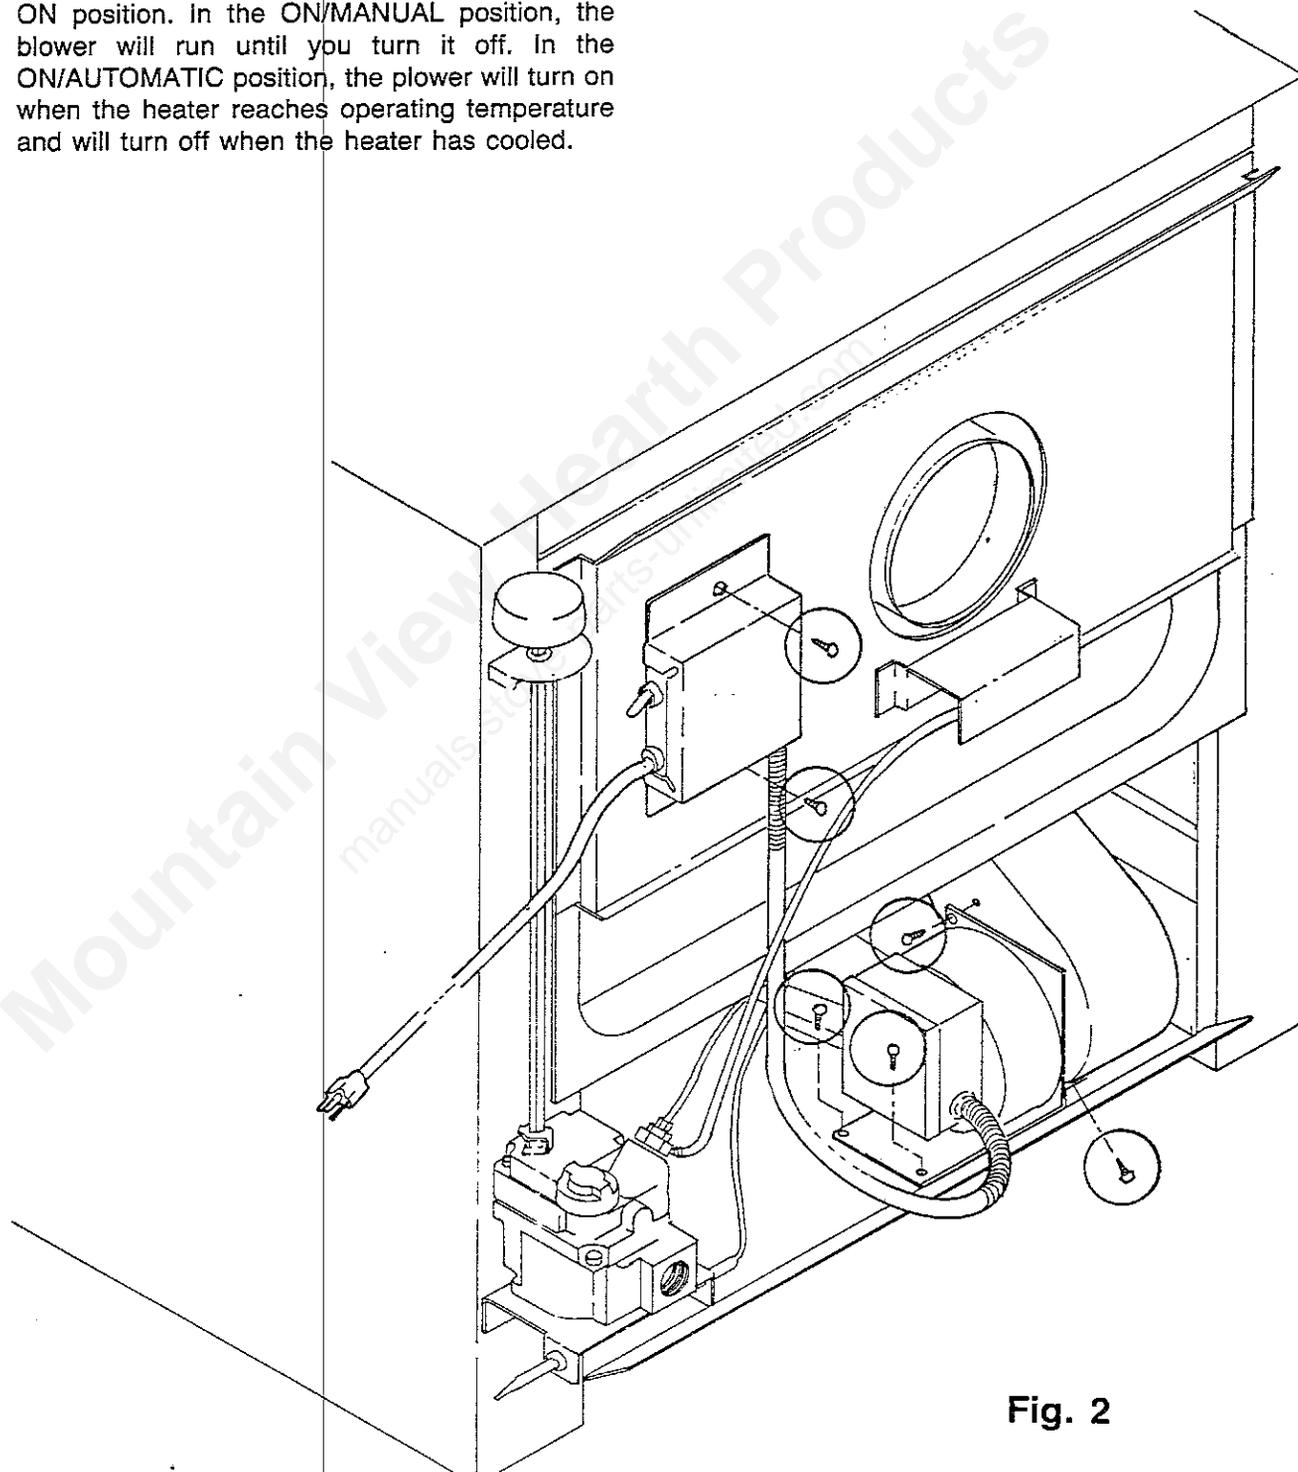

Fig. 2
1. Attach blower housing to the base pan of heater. Align housing with holes in base pan and attach with (2) sheet metal screws provided.
2. Align top duct with holes in blower housing and attach with (2) sheet metal screws. See fig. 2.
3. Attach the control box to left side of heater as shown, using (2) sheet metal screws. NOTE: make certain control box conduit is routed behind vent safety switch wiring.